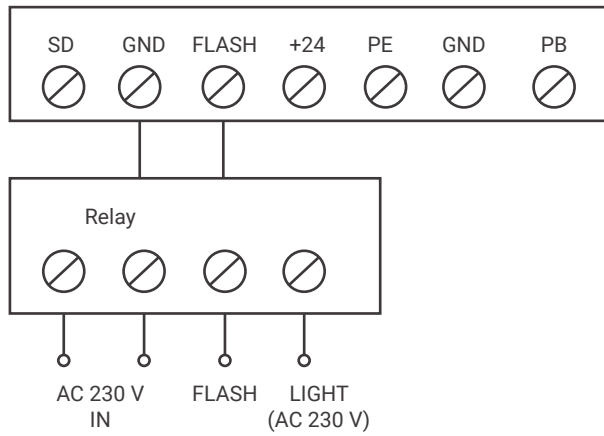
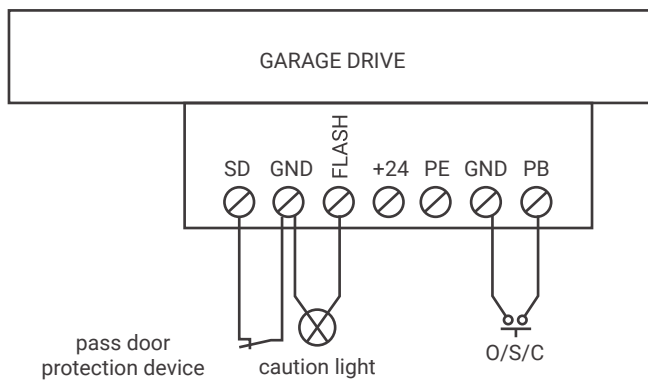

Fig. 18
Fig. 19
The switch must have normally open voltage-free contacts (Fig. 19).
1. The O / S / C input allows you to connect a switch to control the drive (Fig. 19).
2. The signal lamp (Fig. 18 and Fig. 19).
3. Pass door protection (Fig. 19).
The drive is equipped with a mechanism for disconnecting the drive, which allows you to manually open or close the gate in the event of power failure or drive failure (Fig 19). To disconnect the drive, pull the handle. To re-engage the drive, simply close the latch of the drive disconnect mechanism and then move the gate manually or start the drive until the latch locks on the belt or chain.